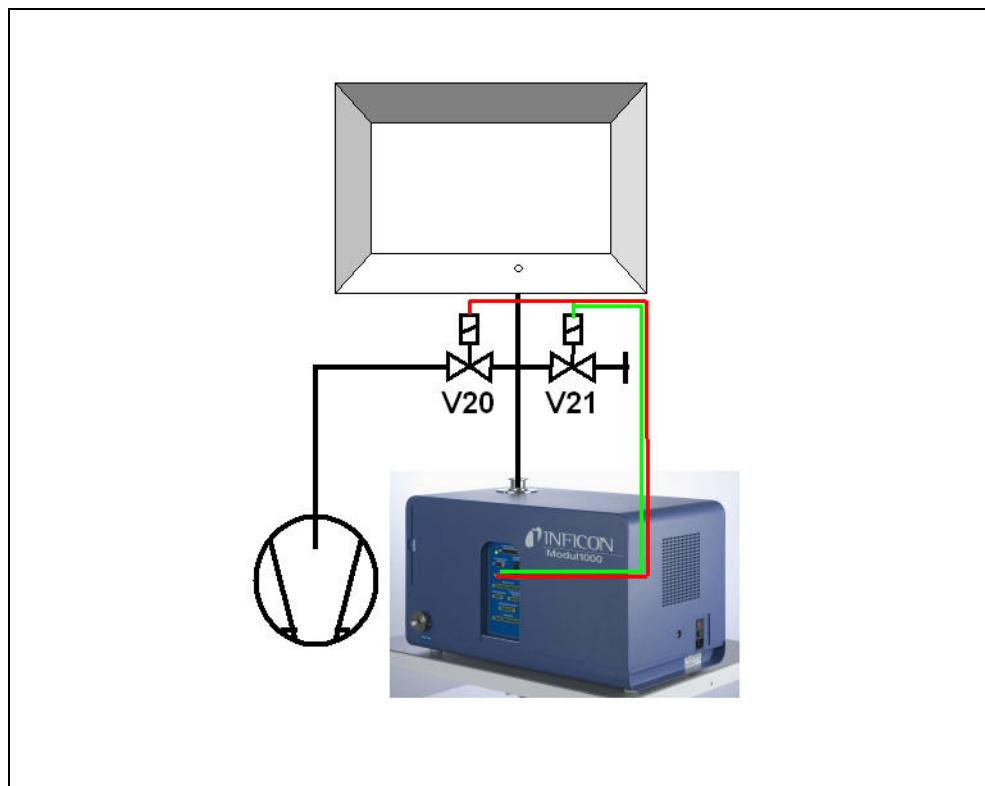

Fig. 5-1 Partial flow mode
The vacuum chamber is evacuated by the Modul1000, alternatively also in the partial flow mode (Fig. 5-1 Partial flow mode). The DUT located in the vacuum chamber is connected to the helium filling device through the chamber walls and is charged with helium in the evacuated state of the vacuum chamber.
- 2 After initiating the START signal, the Modul1000 starts evacuating the vacuum chamber. If a partial flow pump is connected to the Modul1000, the partial flow valve V20 (Fig. 5-1) is controlled and the test sequence is supported according to the partial flow setting by the partial flow pump.
- 11 Subsequently, the vacuum chamber is ventilated to atmospheric pressure by the Modul1000 (and the external Flood Valve V21 (Fig. 5-1) if connected).